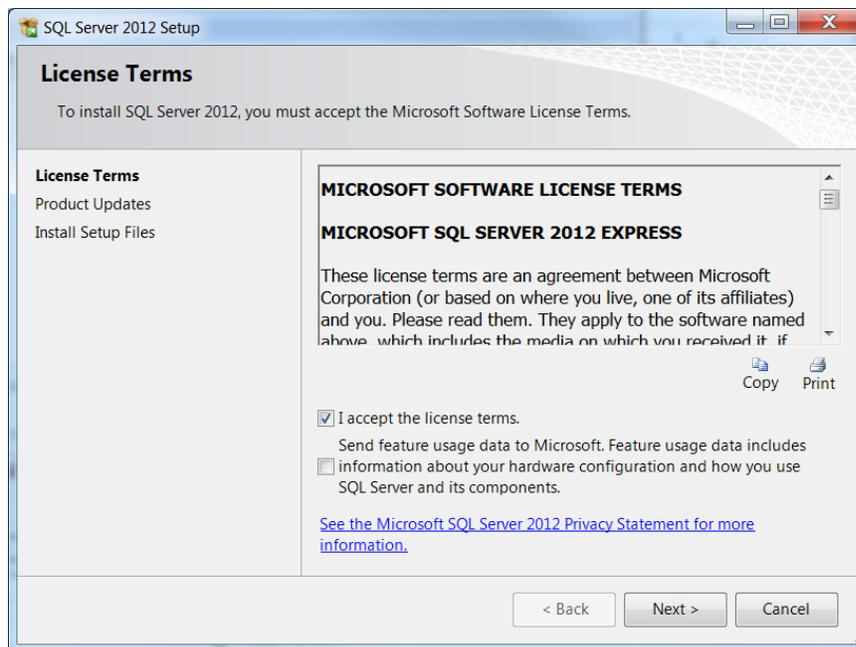

Figure 12: SQL Server 2012 Setup License Terms
- 6) At the SQL Server 2012 Setup License Terms window (Figure 12).accept License terms and click **Next**.